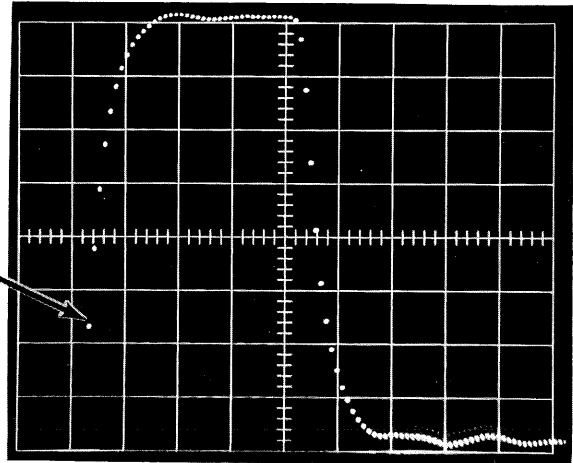

Figure 5-26
3. Set the SMOOTH-NORMAL control to SMOOTH. The first dot must fall between 2 and 2.4 cm from the baseline. See Figure 5-26.